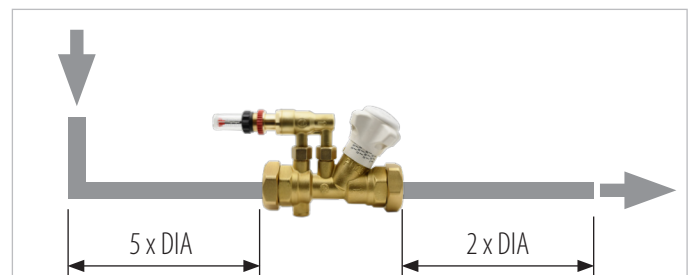

Figure 1
- If the valve is installed after an elbow, it is recommended to maintain a minimum length of straight pipe equal to 5 pipe diameters before the valve and 2 pipe diameters after the valve. (Figure 1)